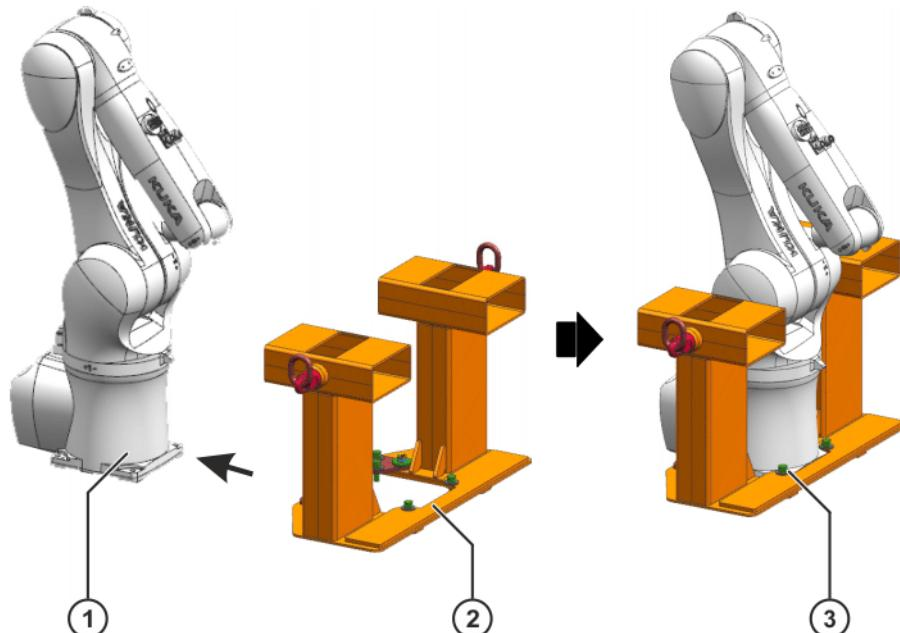

Fig. 8-3: Pushing on the Load Lifting Attachment and fastening it at the front
3. Carefully push the Load Lifting Attachment onto the base frame of the robot from the front (**>>> Fig. 8-3**).